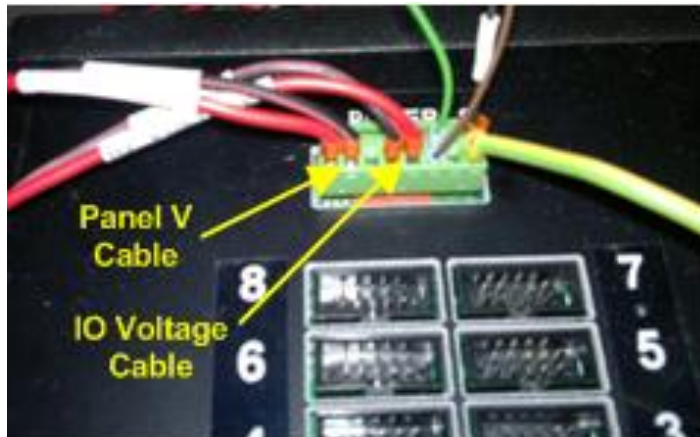

Figure 4: Power Connector with Panel V and IO Voltage cables connected.
1. Connect Panel V cable to power connector as follows (Fig. 4).